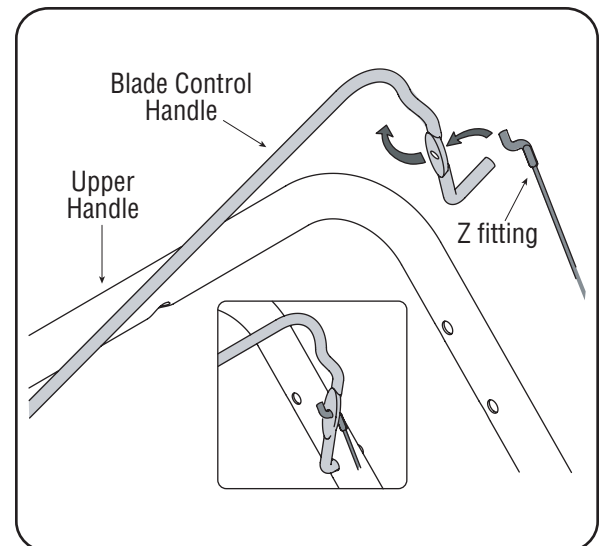

Figure 3-6
1. To make it easier to attach the Z fitting, temporarily remove the left side of the blade control as shown in Figure 3-6.
2. Hook the Z end of the brake cable into the handle from the outside to inside. See Figure 3-6.